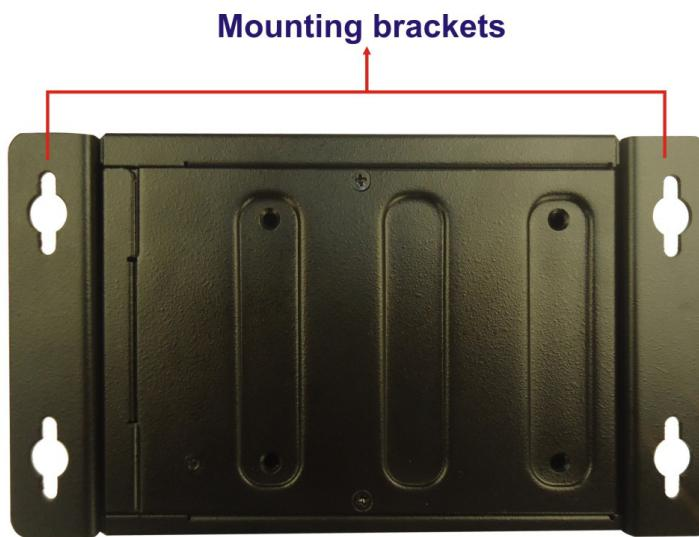

Figure 3-15: Mounting Bracket
Step 3: Secure the brackets to the system by inserting two retention screws into each bracket as illustrated in **Figure 3-15**.